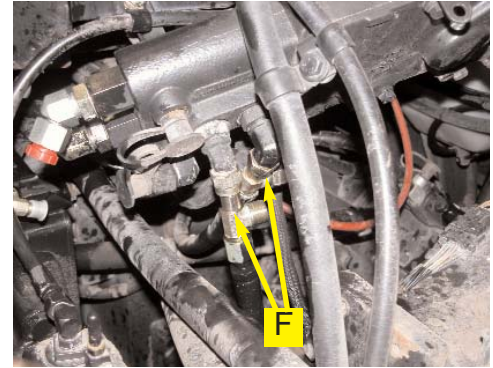

Figure 3b. Installed pressure and tank run tees.
- b. The pressure connection is the hose on the bottom right side of the steering valve. Remove the pressure hose and install the run tee fitting (**F**). The tank connection is the hose on the bottom left side of the steering valve. Remove the tank hose and install the run tee fitting (**F**). (Figure 3b.)